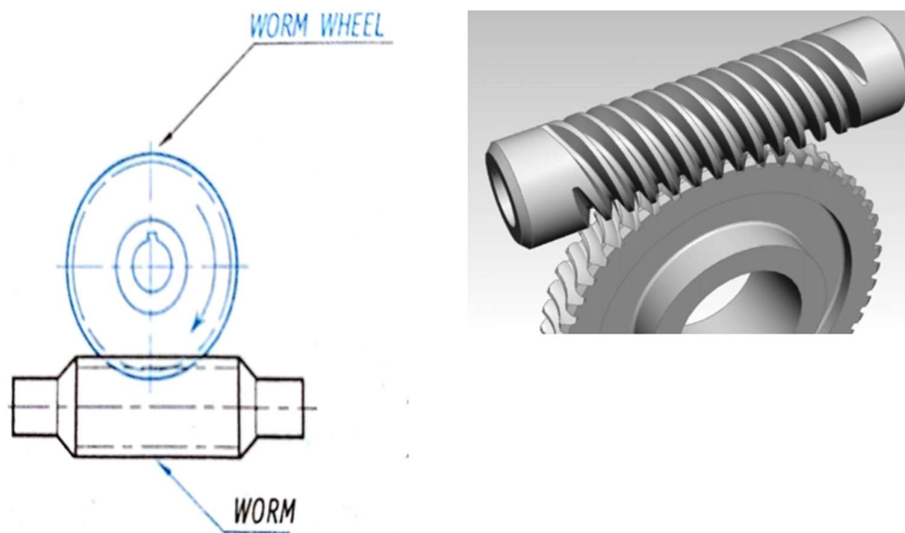

Fig.4. Worm gear
- Worm gears are used to transmit power between the driving and driven shafts having their axes at right angles and non-coplanar as shown in fig. 4.